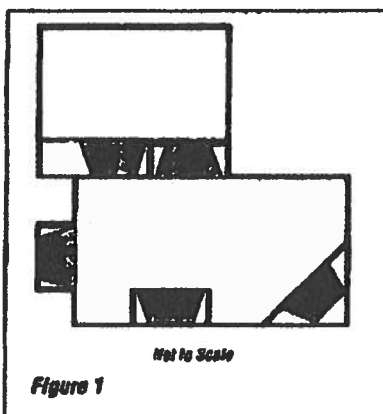

Figure 1
- Minimize modifications to existing construction. See Figure 1 for location suggestions.